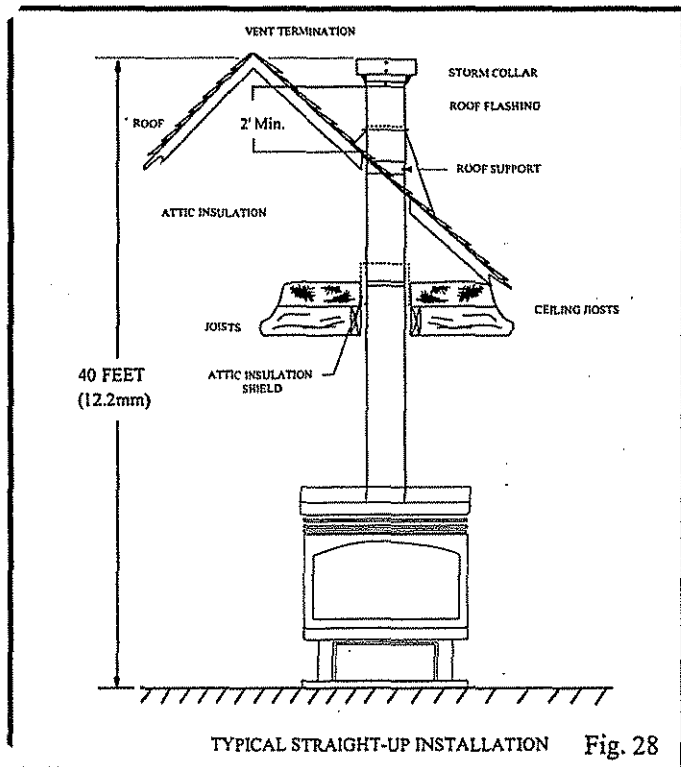

Fig. 28
The minimum height of the vent above the highest point of penetration through the roof is 2 feet. See Fig. 28.
10. Add additional vent lengths for proper height. Fig. 28.